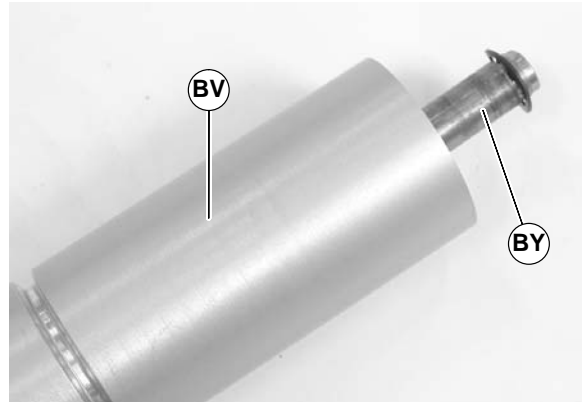

Figure 52
- Slide the shaft assembly (BY of Figure 52) out of the pulley (BV).